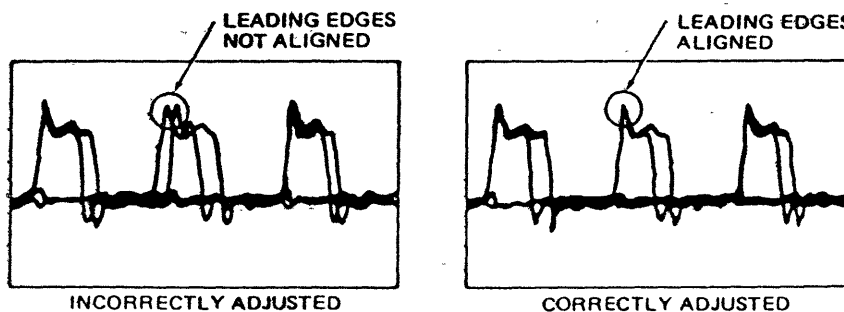

Figure 20-10. Radial Timing Adjustment
- f. Power up the system and adjust R15 so that the two positive-going edges merge into a single edge as shown in Figure 20-10.